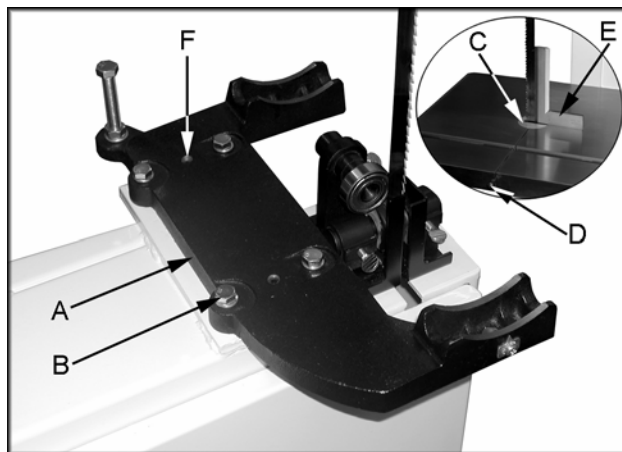

Figure 5
1. Mount the trunnion support bracket (A, Fig. 5) to the bandsaw with four 5/16" x 1-1/2" hex cap bolts, and four 5/16" lock washers (B, Fig. 5).
2. Remove the round table insert (C, Fig. 5) found where the blade goes through the table. Also, remove the table pin (D, Fig. 5) found on the side of the table.
5. Place a square (E, Fig. 5) on the table and against the back edge of the blade. If the table needs adjusted, on the low side, loosen two bolts (B, Fig. 5) and turn the setscrew (F, Fig. 5) until the table is approximately square to the back edge of the blade.